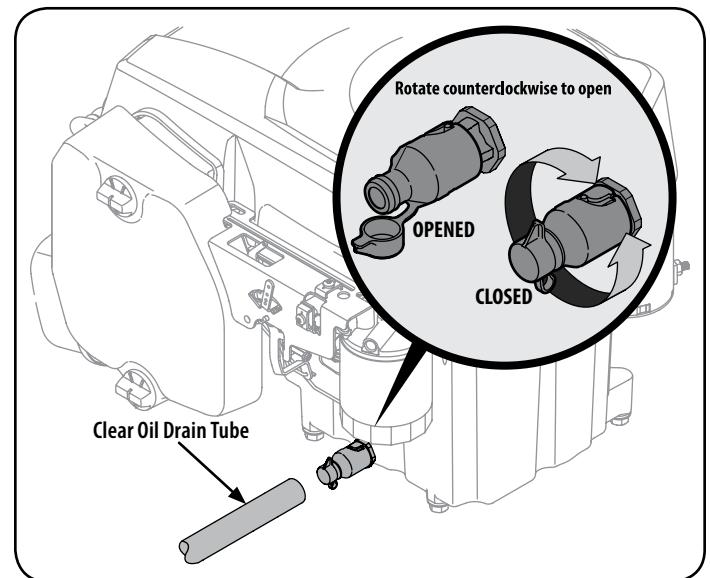
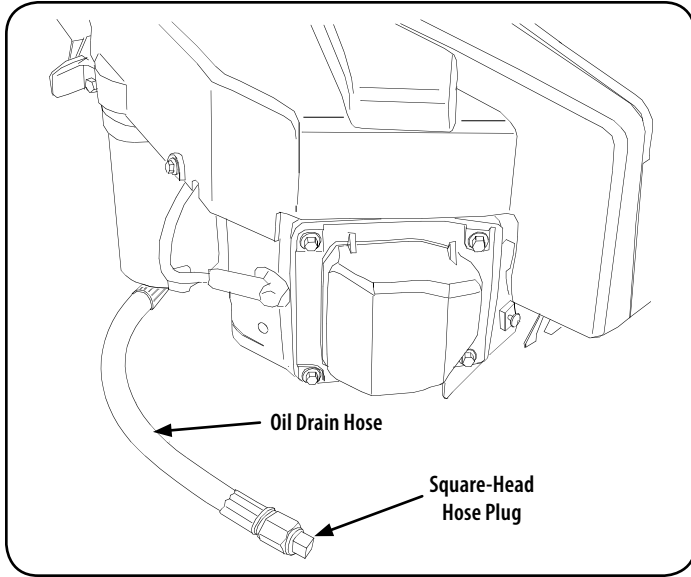

Figure 23
Figure 24
4. Your engine is equipped with either a twist-and-pull oil drain (see Figure 23 and go to Step 5.) or a removable oil drain hose plug (see Figure 24 and go to Step 6.) Follow the applicable instructions for your tractor.
5. Twist-and-pull oil drain (refer to Figure 23):
6. Removable square-head hose plug (See Figure 24):
- a. Remove the square-head hose plug from the end of the hose. See Figure 24. Drain the engine oil into the collection container.